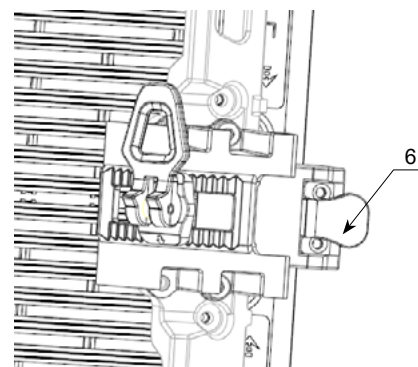

Figure 2.1.1 Left and right lock installation diagram
As shown in Figure 2.1.1, Item 5 is the quick lock and item 6 is the arc lock. First, slide the arc lock to the specified angle, push the horizontal quick locks of the adjacent cabinet into the side holes of the arc lock, and rotate quickly lock the handles to lock the cabinet.